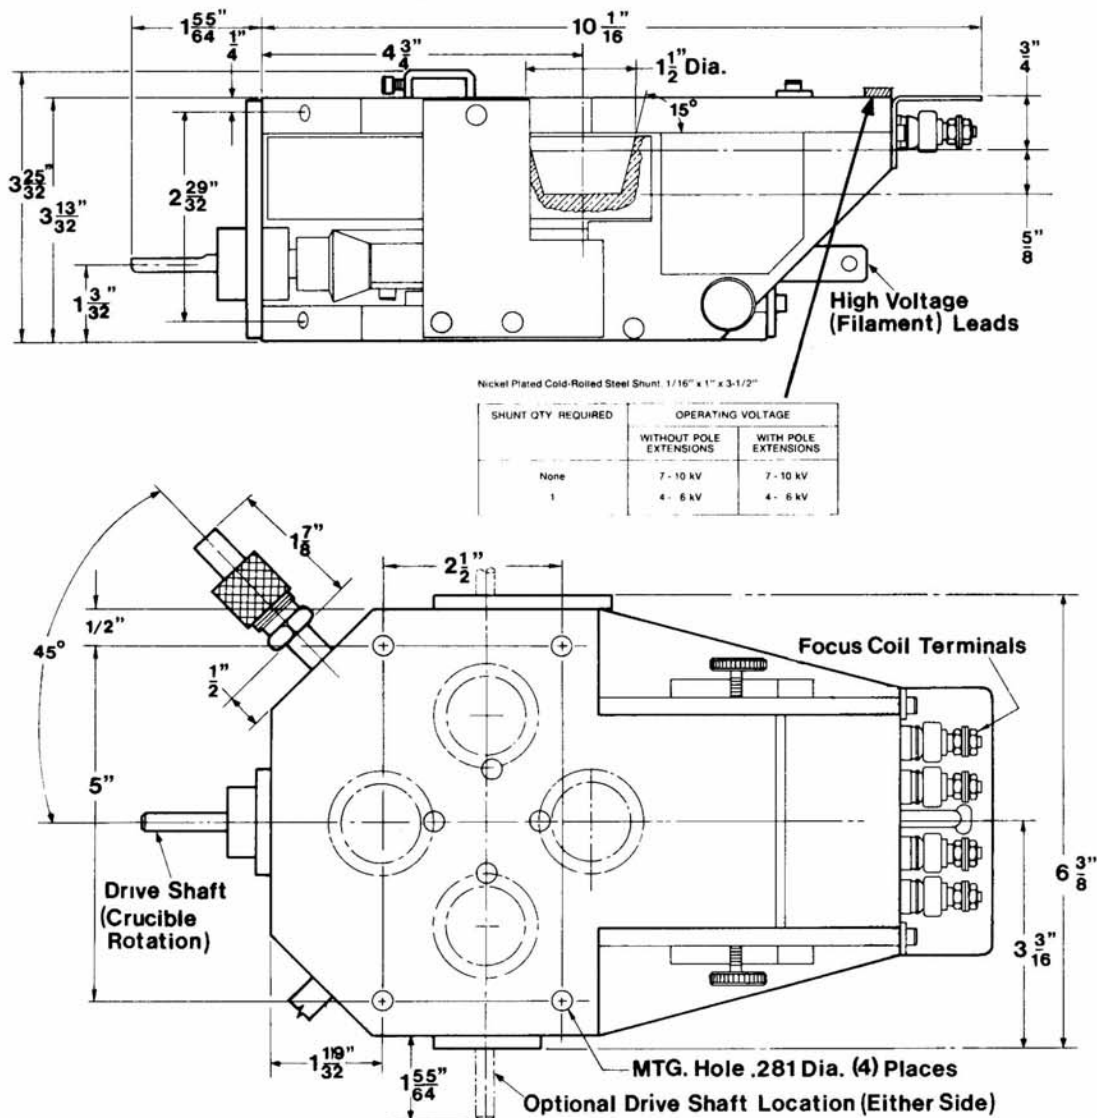

FIGURE 2
I. SOURCE DIMENSIONS (See Figure 2)	3.781" H x 6.375" W x 10.062" D (excluding water lines)
4. If the Source is to be operated at less than 10 kV, ensure that the proper shunt bar has been installed. Refer to Figure 2.